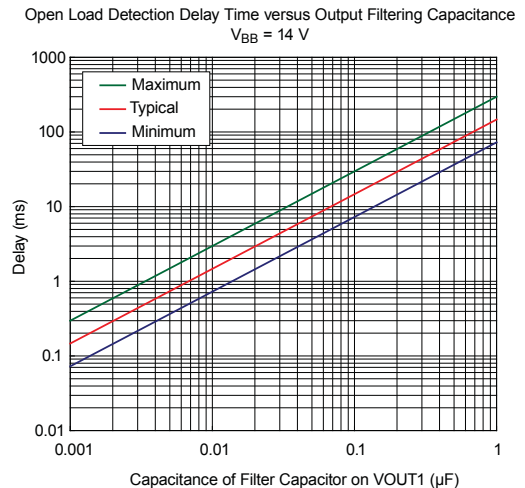

Figure 5. Delay to Open Load protection activation versus value of external capacitor on the output pins
B. If a filtering capacitor is used at the outputs, it causes a delay of open load detection. (Refer to figure 5 for the relationship of the delay versus the filtering capacitor value.)